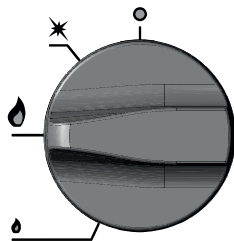
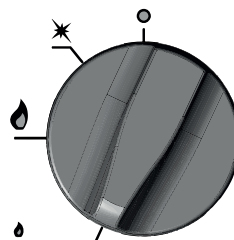

Figure 10. Setting of the knob in which the burner operate at its maximum power.
Figure 11. Setting of the knob in which the burner operates at its minimum power (about 1/3 of the maximum power).
- Turn the knob (counterclockwise) to the full-flame position (Fig. 10) in order to light the main burner (lit by the pilot burner). Then turn the knob further in the same direction to get an energy-saving flame (Fig. 11). The main burner will not be actuated if the pilot burner does not light and heat the gas leak detector. In the event of a temporary fadeaway of flame, the gas leak detector will cut off the gas supply to the burner.